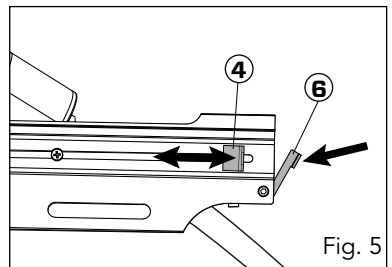

Fig. 5
3. First release the magazine feeder (4) by pushing backward and holding. Now release the feeder latch (6) and allow the magazine feeder (4) to push the fasteners forward to the driving mechanism (fig. 5). The tool is ready for use.